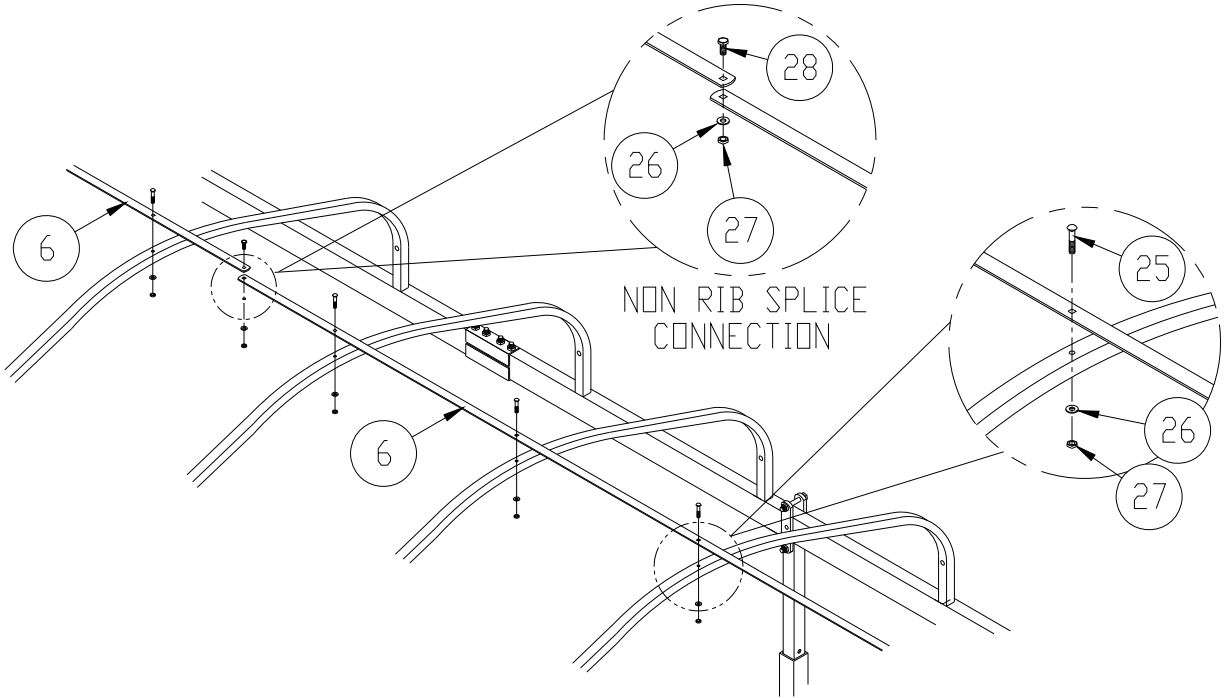

Figure 2-5.
6. Install plastic caps (17) into the canopy frame end caps (4) to prevent fabric abrasion.
7. Install the canopy ribs (5) by sliding them onto the canopy rib bushings.
8. Refer to **Figure 2-5**. Assemble canopy band (6) on top of the ribs with hardware shown. This will provide a uniform lay of the fabric.